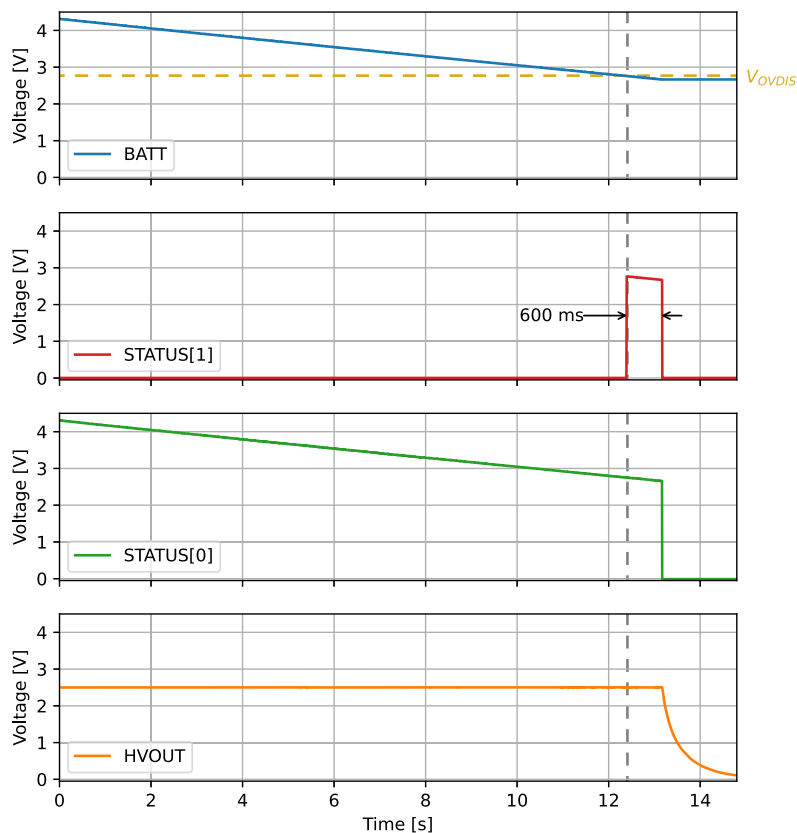

Figure 5: AEM20941 shutdown behavior
- Switch off the source and allow the system to discharge through quiescent current and any load(s) connected to **HVOUT**/**LVOUT**. A 50 k Ω load was connected to **HVOUT** to create the graphs shown on Figure 5.
Referring to Figure 5:
- 600 ms after crossing V_{OVDIS} , the storage element is no longer discharged as **HVOUT**, with its 50 k Ω load, is no longer supplied, so **BATT** voltage then remains stable. At that moment, **STATUS[0]** and **STATUS[1]** are both de-asserted. Figure 5 shows only the behavior of **HVOUT**, but **LVOUT** behaves the same in those conditions.